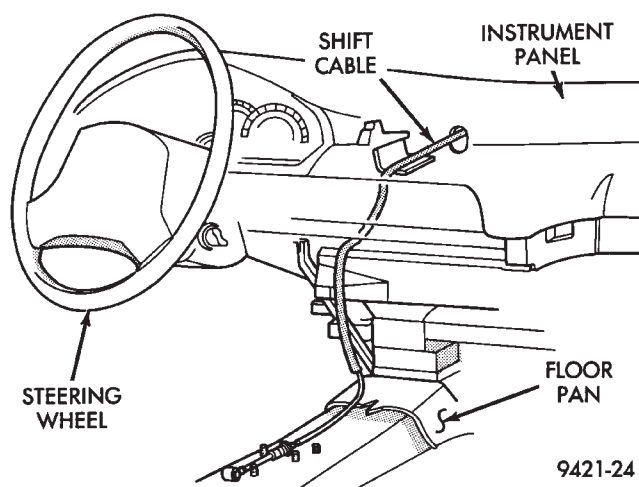

Fig. 30 Interior Cable Routing
(4) Place conduit end fitting in clamp and tighten mounting bolt.
(5) Rotate fill tube to original location. Install and tighten fill tube bracket bolt.
(6) Route transaxle shift cable through hole in dash panel.
(7) Install cable grommet in dash panel.
(8) Route transaxle shift cable under A/C duct, over central distribution duct, through support strut and air bag mounting bracket. Then route over carpeting and down to the shifter bracket (Fig. 30).